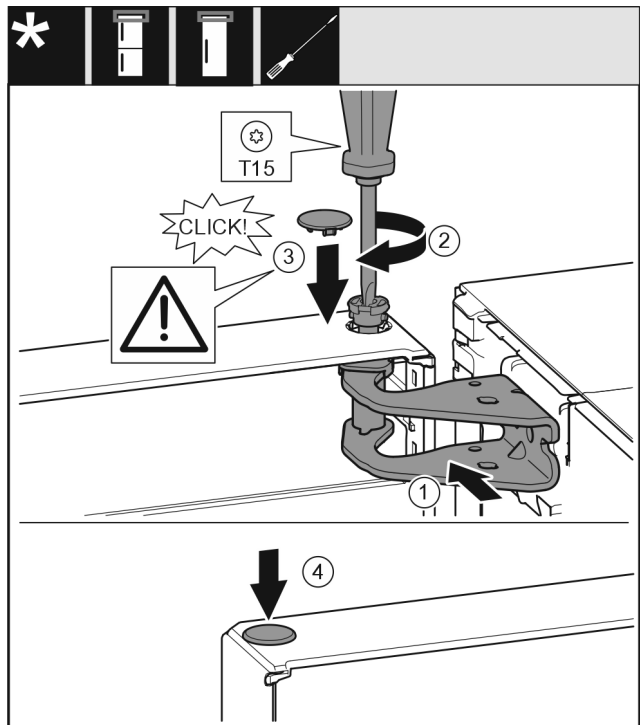

Fig. 17
- ▶ Align the top of the door with opening in the bearing bracket. Fig. 17 (1)
- ▶ Insert the bolt and tighten with a T15 screwdriver. Fig. 17 (2)
- ▶ Fit the protective cover to protect the door: Insert the protective cover and check that it is flush to the door. If not, insert the bolt fully. *Fig. 17 (3)*
- ▶ Insert the plugs. *Fig. 17 (4)*